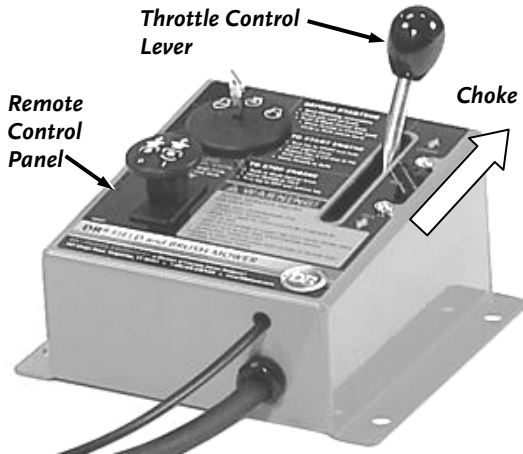

Figure 9
2. Move the Throttle Control to the Choke position on the Remote Control Panel (*Figure 9*).